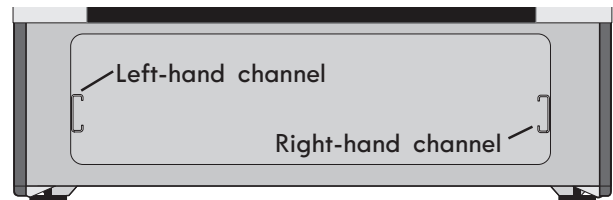

Figure 35: Channel alignment
2. Carefully line up both sides of the warmer drawer glide rails to the outer compartment glide channels located inside the empty warmer drawer compartment (See Figure 35).